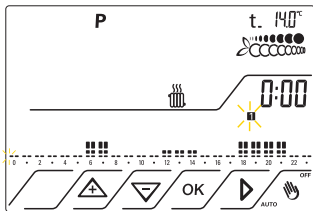

Fig.25
6.5 Press OK to set the Monday  program fig.25.
The icon  flashes. Fig.25
The clock shows the time 0:00 relative to the flashing segment Fig.25.